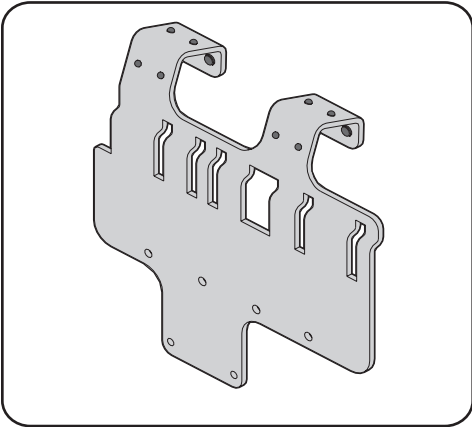

Figure 4-1
- Install 12 rubber pads (735-05938) into adapter bracket (789-02277) using the mounting holes shown in Figure 4-1.